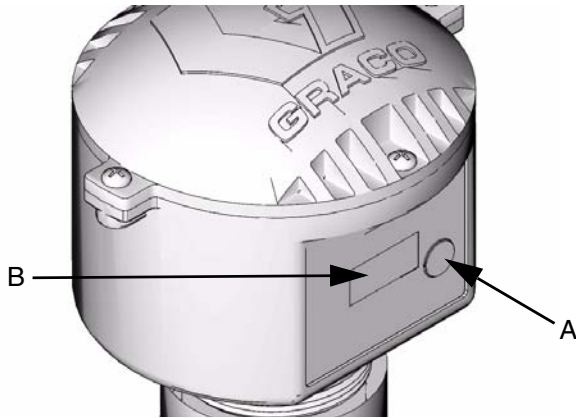

FIG. 8
Press and release the Display button (A). Data appears on display (B); each screen lasting a few seconds before going on to the next. See FIG. 8.